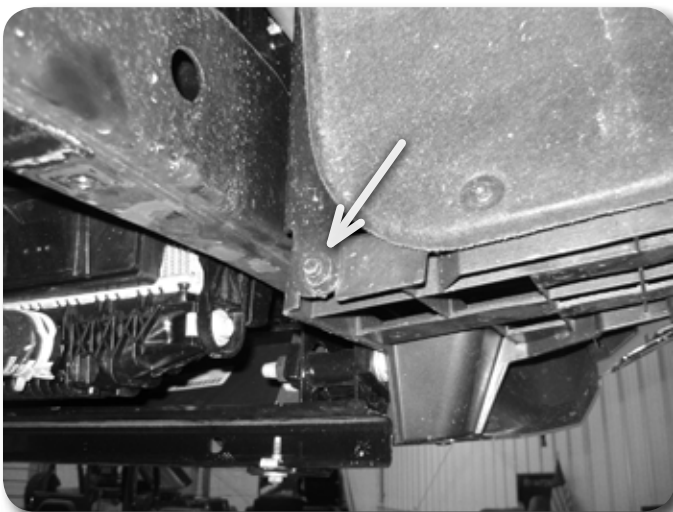

Figure 2
7. Remove the bolt connecting the support strut to the front bumper corner support. See Figure 2